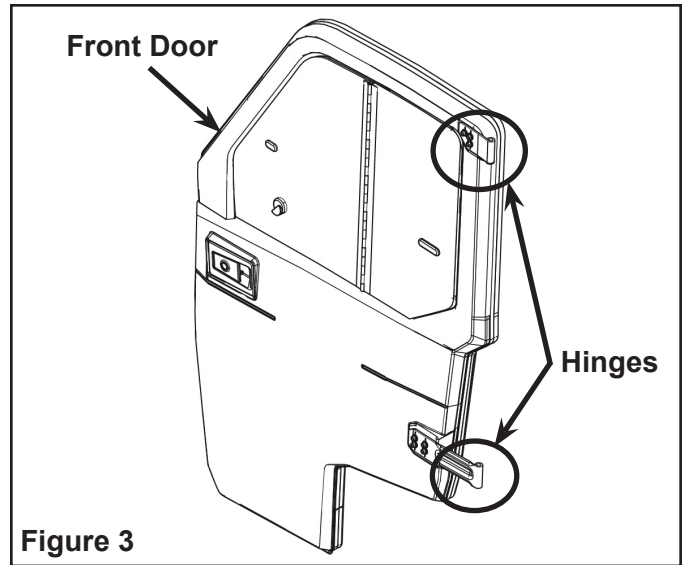
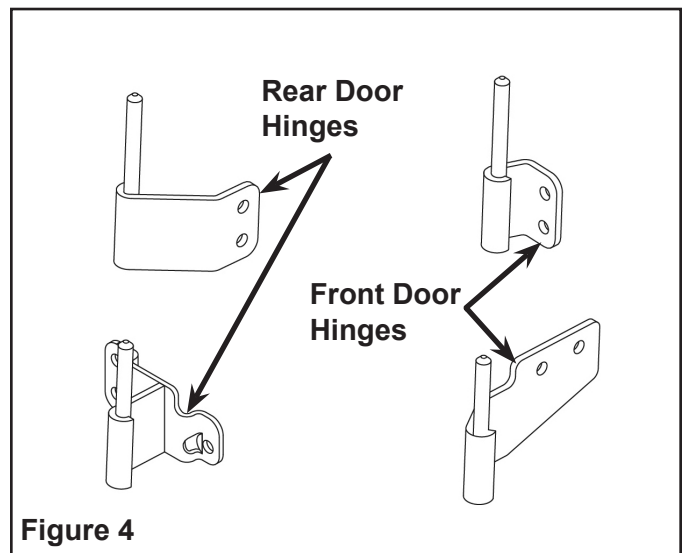

Figure 3
Figure 4
4. Install the hinges from the rear door kit on the front door. Loosely tighten on the door for adjustments later. Figure 3 and Figure 4.